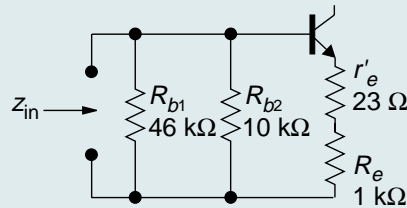

FIGURE 5-8 Input impedance equivalent circuit
**Step 3.** Draw an equivalent circuit showing how  $R_{b1}$ ,  $R_{b2}$ ,  $R_e$ , and  $r'_e$  appear from the perspective of the signal generator. The equivalent circuit is shown in Figure 5-8.